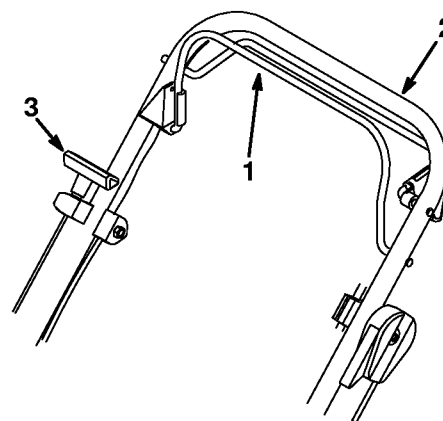

Figure 34
11. Hold blade control bail against upper handle (Fig. 34) and pull starter rope several times to blow out loose carbon.